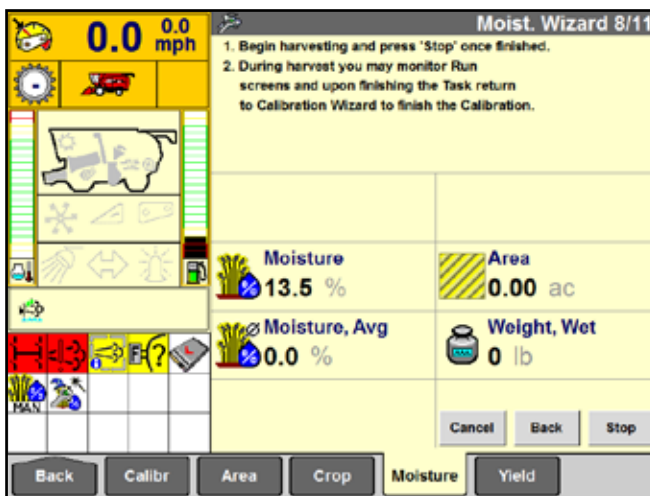

Figure 17.2
- Intuitive screens allow operators to input actual crop moisture and weight values (see figure 17.2)